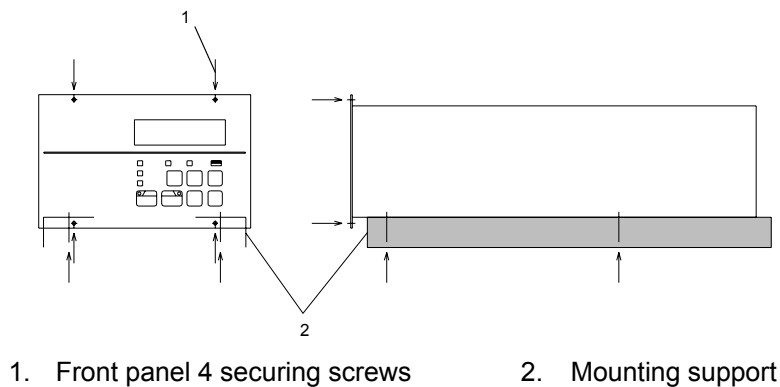

Figure 13 - Example of securing the SCU-1500
Note: For the dimensions of the front panel and positions of the screw holes for the rubber feet, refer to Figure 8 and Figure 13.
- Attach the front panel to the rack using the 4 screws Figure 13 (1).
- Support the SCU-1500 from the bottom using a support angle Figure 13 (2) or a similar tool.